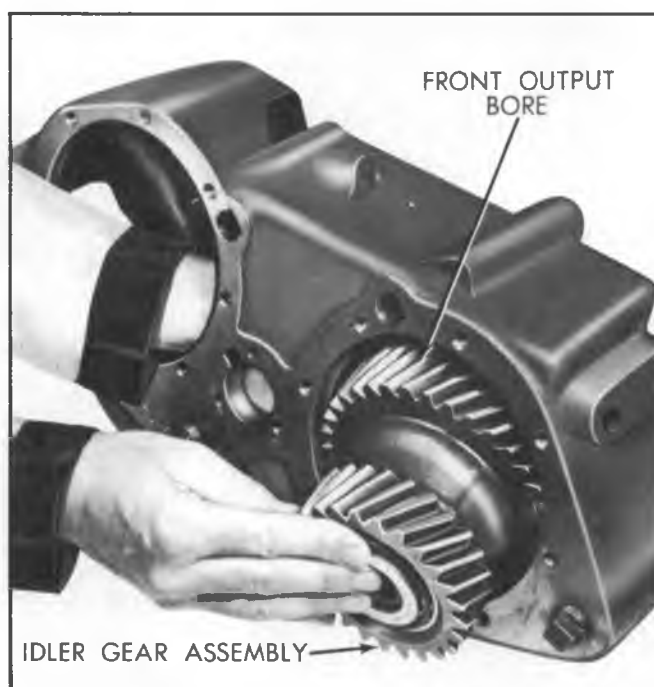

Fig. 12C--Installing Idler Gear
3. Install idler gear assembly with dummy shaft into case through front output bore, large end first (Fig. 12C).